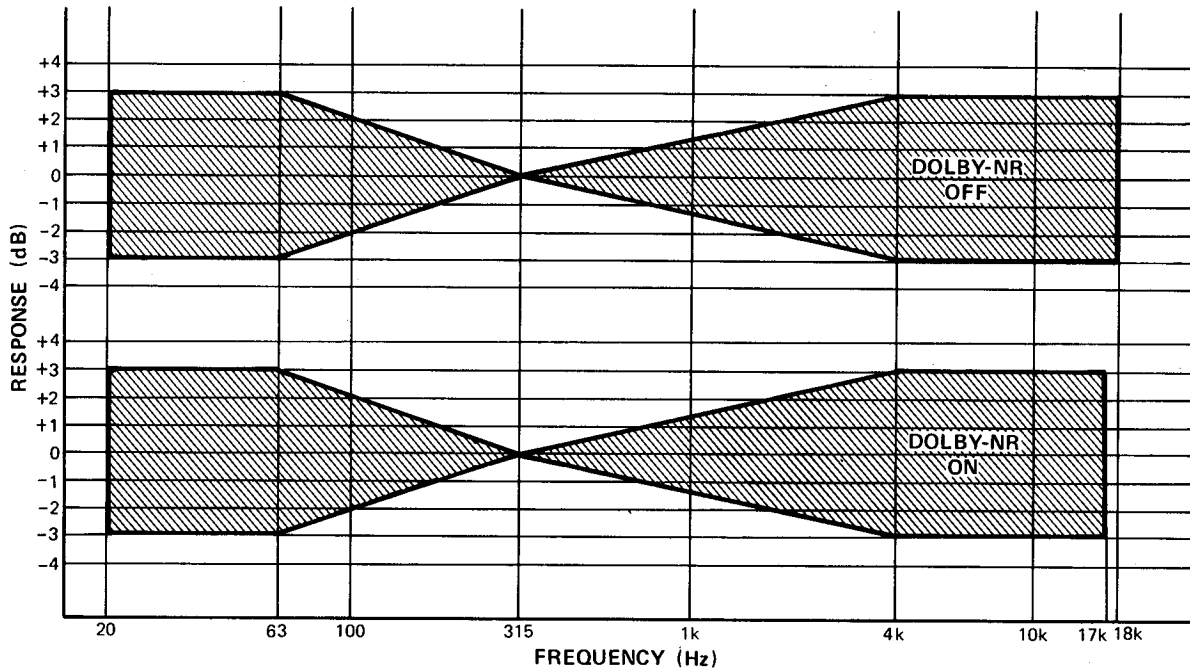

Fig. 4 – Low Noise
12. If the above frequency response is not within the shaded DOLBY-NR OFF area of Fig. 4, adjust VR303 (left) and VR304 (right) slightly. Repeat steps 10 and 11 until playback frequency response on the V.T.V.M. 2 is adjusted within the DOLBY-NR OFF range as shown in Fig. 4.
13. Set Dolby NR switch to ON position and check if frequency response is within range of DOLBY-NR ON section of Fig. 4, if not repeat DOLBY-NR OFF procedures.